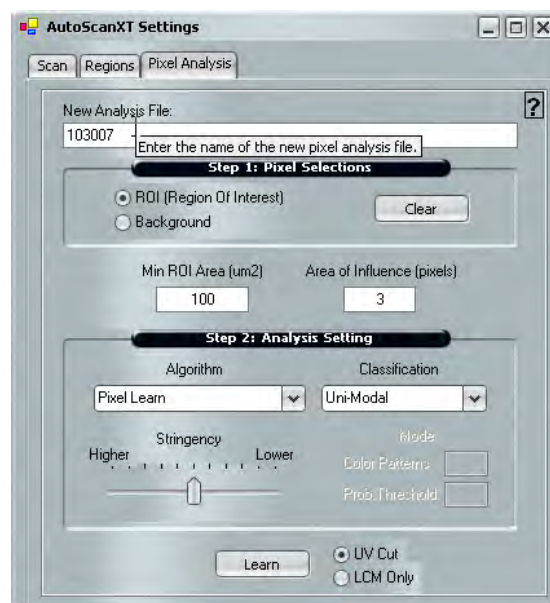

Figure 4. Pixel Analysis Tab.
9. Type in a name for the new analysis file (Figure 4).
- a. Click on the “ROI (Region of Interest)” selection (Figure 4).
- a. Click on the Background selection (Figure 4).
4. To remove either a ROI or Background selection, click on “**Clear**” (Figure 4). This command removes all selected points in the static image for either ROI or background (dependent upon selection), allowing you to start the selection process over.
1. Select the **Algorithm** (Figure 4).
2. Select the **Classification** (Figure 4).
3. Assign the **Stringency** (Figure 4). A low stringency value will favor ROI detection but may also include more background as part of the identified items, while high values will decrease inclusion of false positive areas, but at the risk of missing some ROIs.
2. Click “Learn” to save the analysis parameters and to initiate the analysis of the static image (Figure 4).